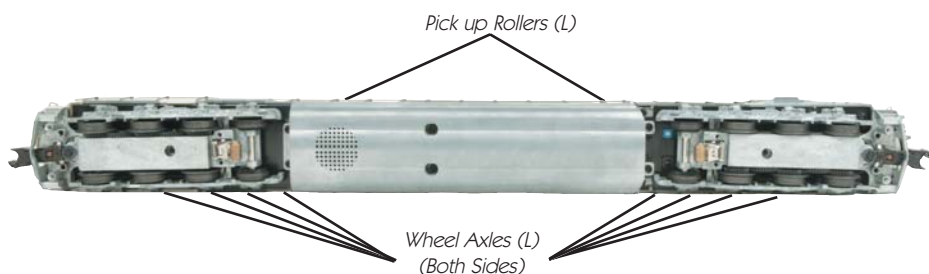

Figure 2 - Lubrication Points on the Engine
- 3.** You should lubricate the wheel axles and pickup rollers to prevent them from squeaking. Use light household oil and follow the lubrication points marked “L” in Fig. 2 on page 8. Do not over oil. Use only a drop or two on each pivot point.
You should regularly lubricate the engine to prevent them from squeaking. Use light household oil and follow the lubrication points marked "L" in Figure 2. Do not over oil. Use only a drop or two on each pivot.